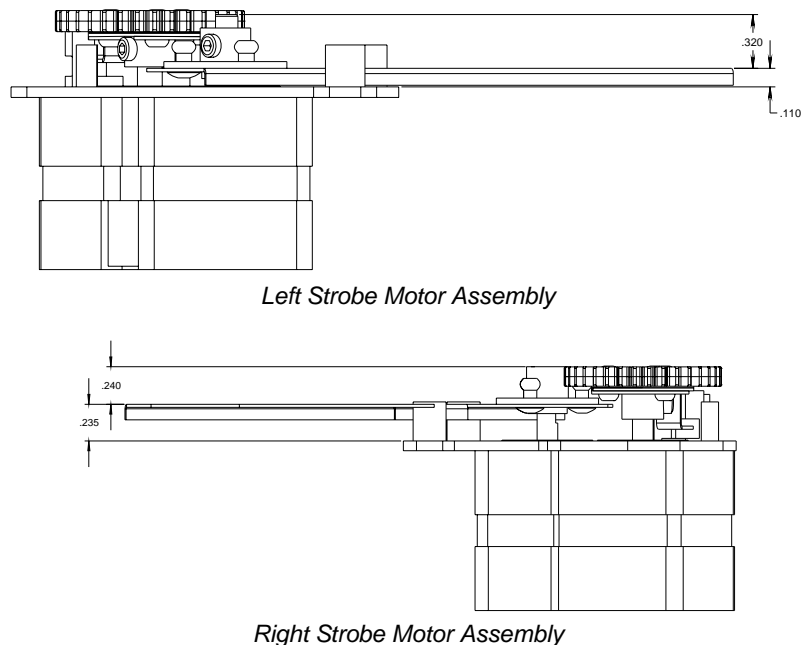

Figure 2-36: Strobe Assemblies - Strobe Blade Height Settings
- Step 6. Set height per tolerance as shown in Figure 2-36.